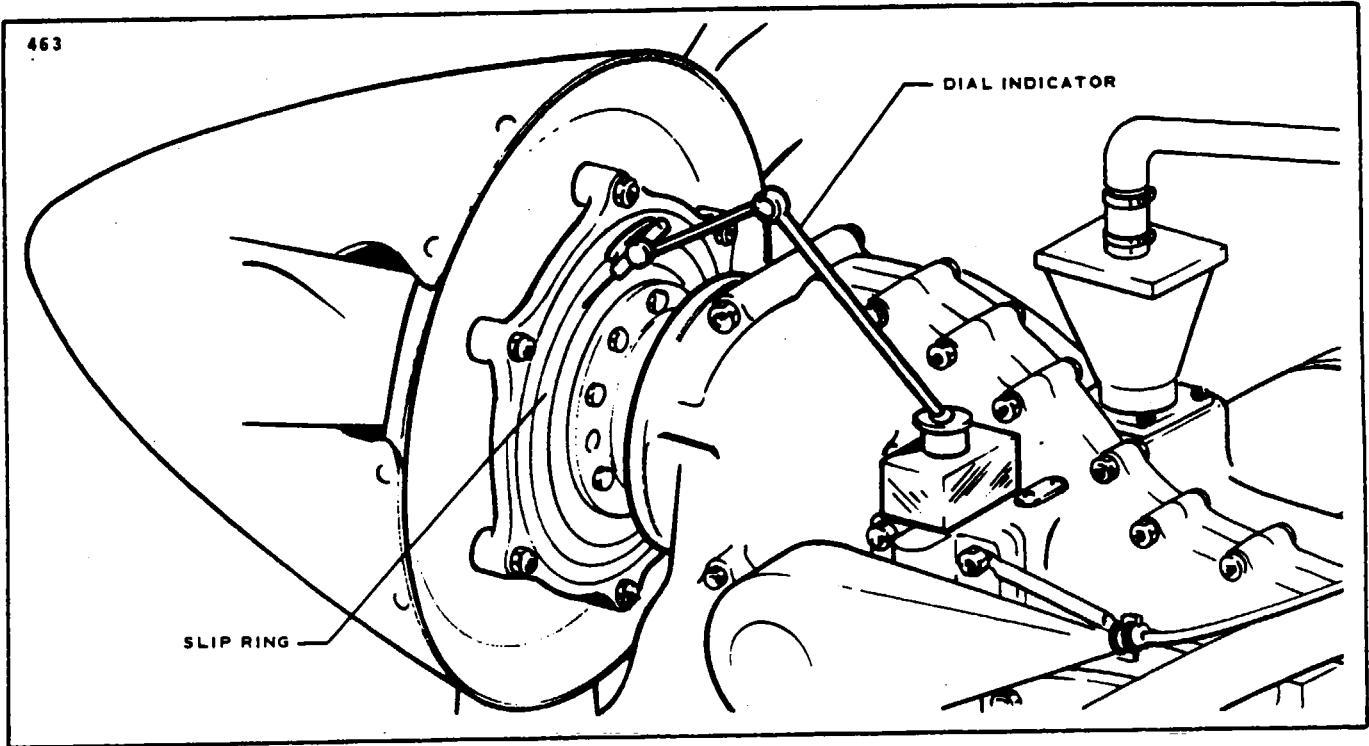

Figure 14-7. Typical Use of Dial Indicator
2. If uneven wear is found or if wobble is noticed, set up dial indicator as shown in Figure 14-7 to check alignment of slip rings to propeller shaft.